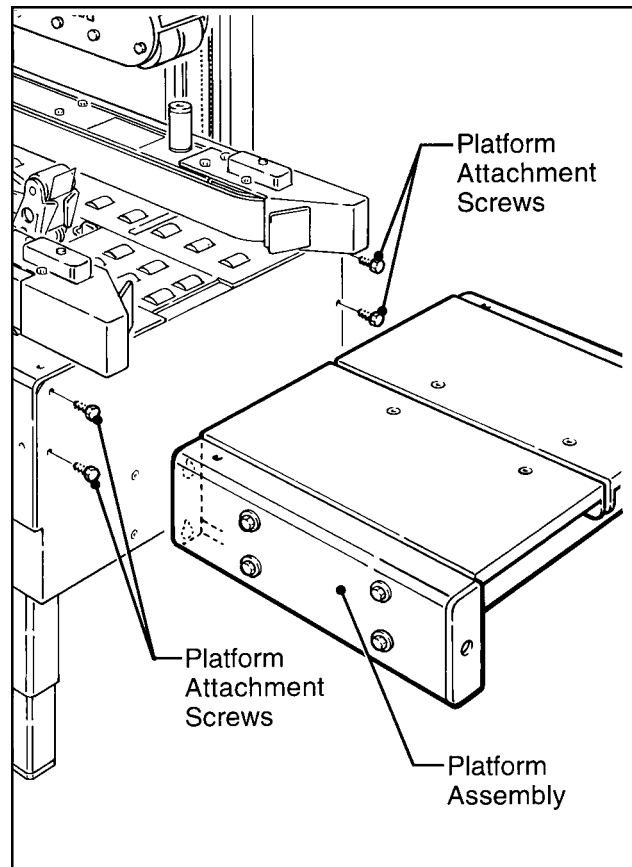

Figure 1 – Platform Installation
3. To attach the platform, refer to Figure 1, and locate four screw holes on the end of the case sealer frame.